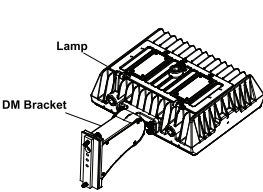

Figure 29
- Step 1: Install the bracket on the lamp . (Figure 29)